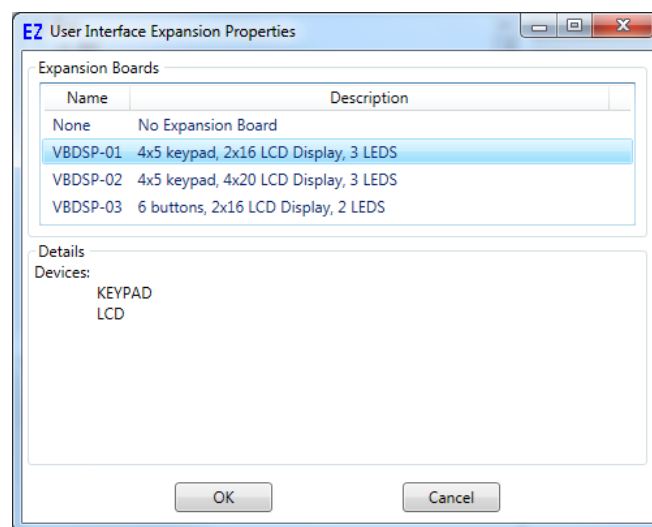

Figure 2-35 - Select VBDSP Expansion Board
4. Select the model of VBDSP board from the list of Expansion boards. Refer to Figure 2-35. The Details section of the window will update with the devices supported on the VBDSP (for reference only) that will be installed in the project settings of the program.